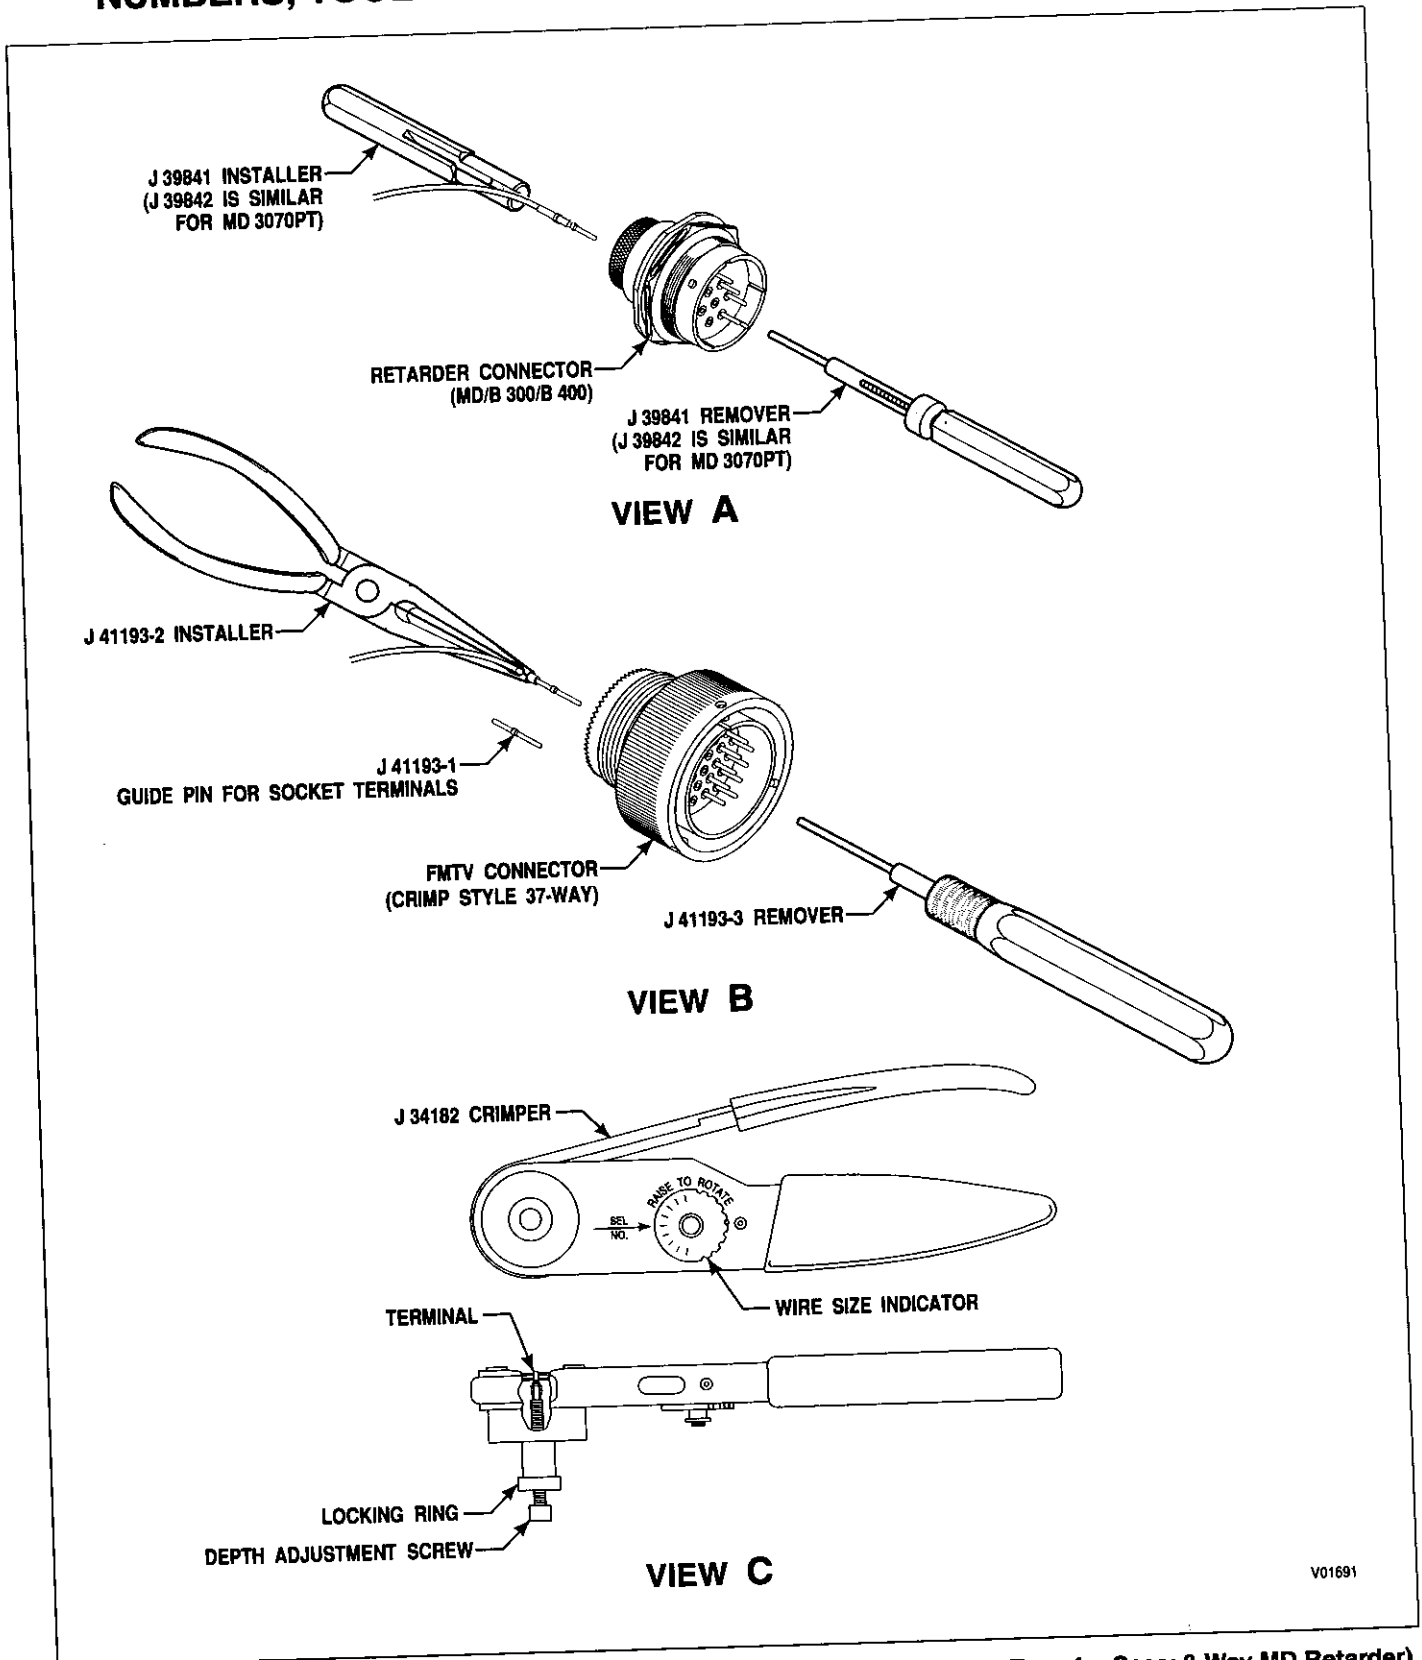

Figure E-11. ITT Cannon Connectors — Crimped (37-Way FMTV Bulkhead; 6-Way Transfer Case; 8-Way MD Retarder)
A. Connector Terminal Repair (Refer to Figure E-11)